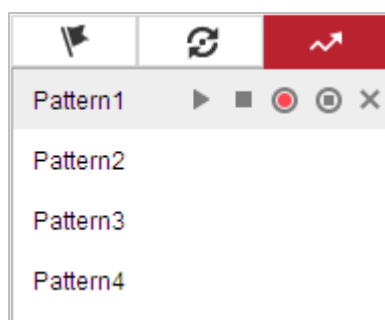

Figure 4-6 Patterns Settings Interface
2. Select a pattern number from the list as shown in Figure 4-6.